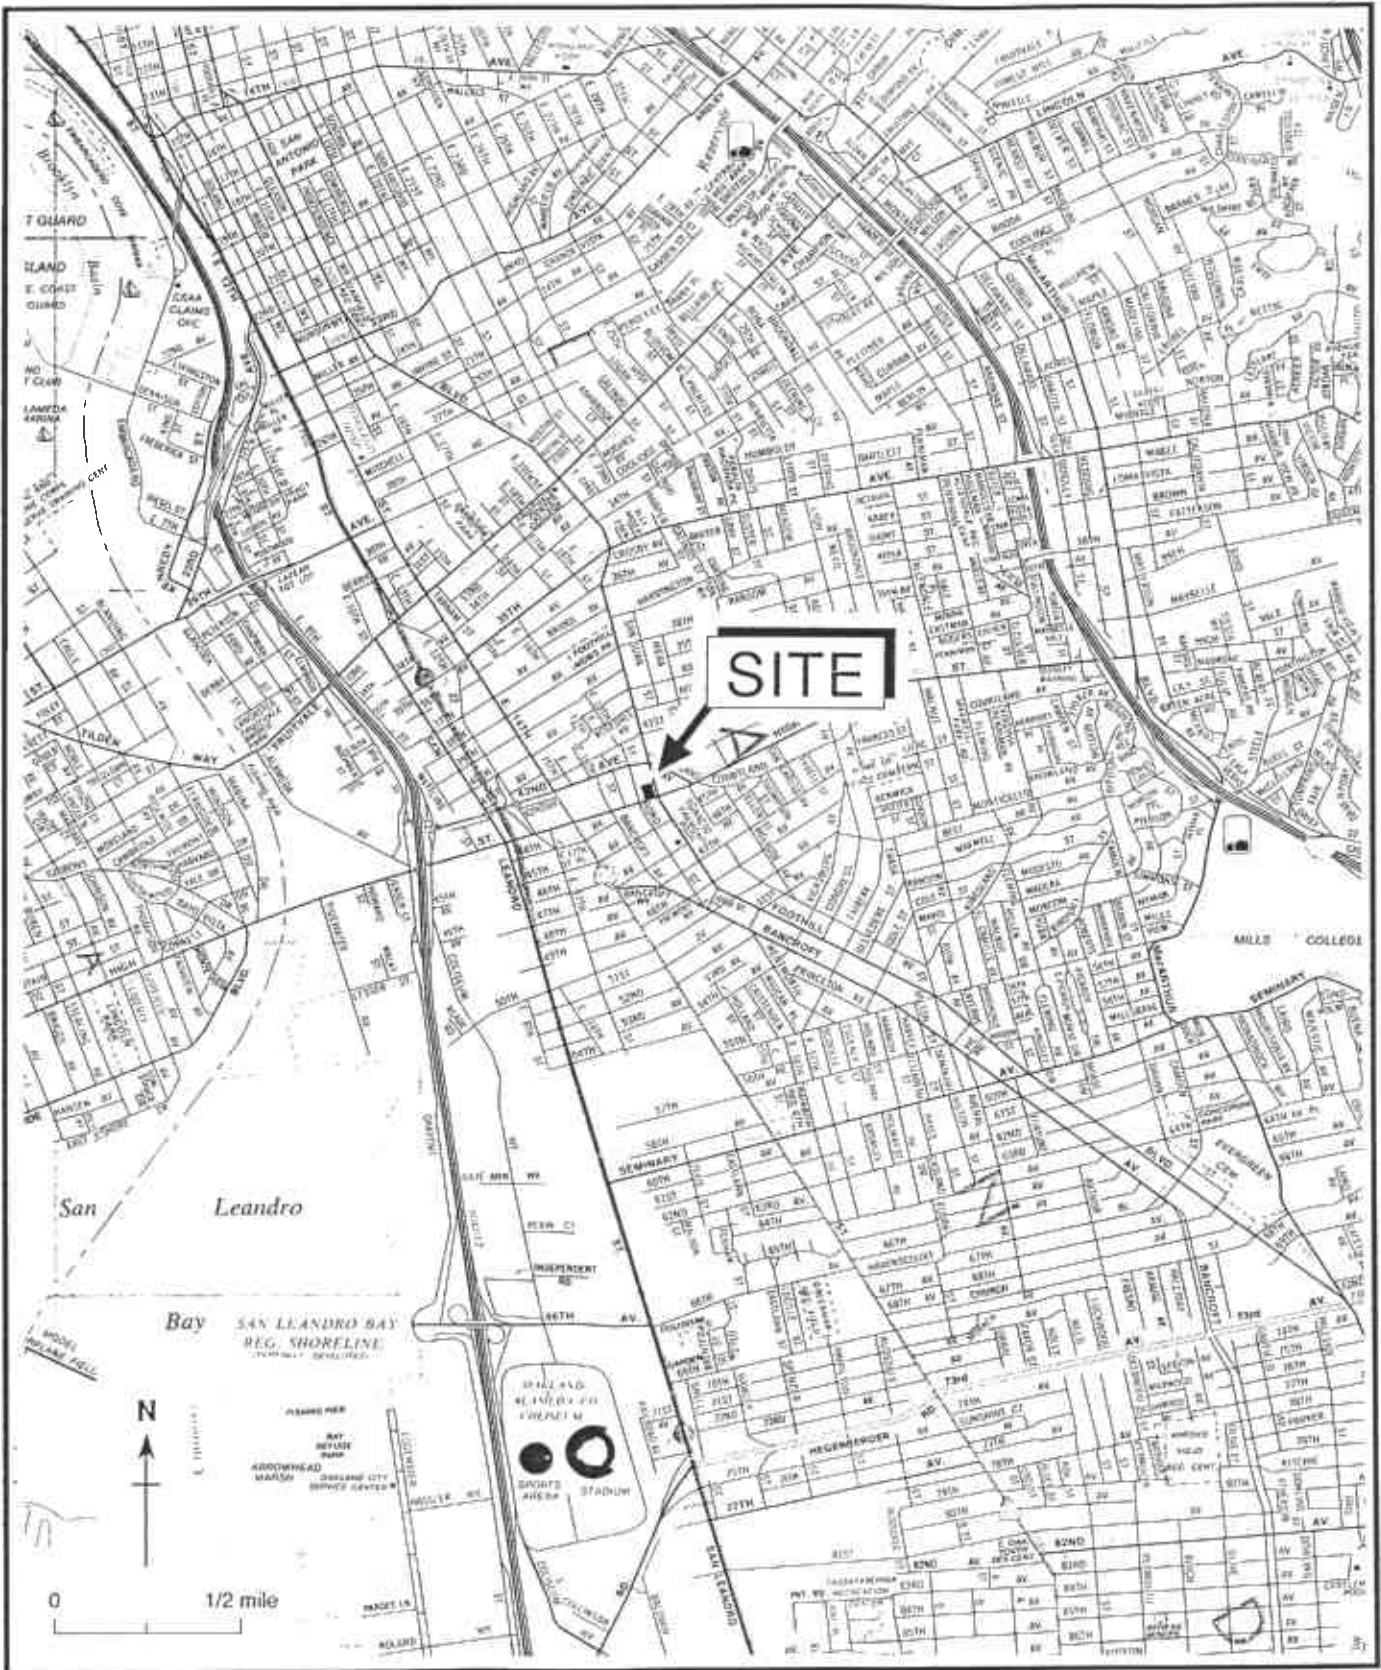
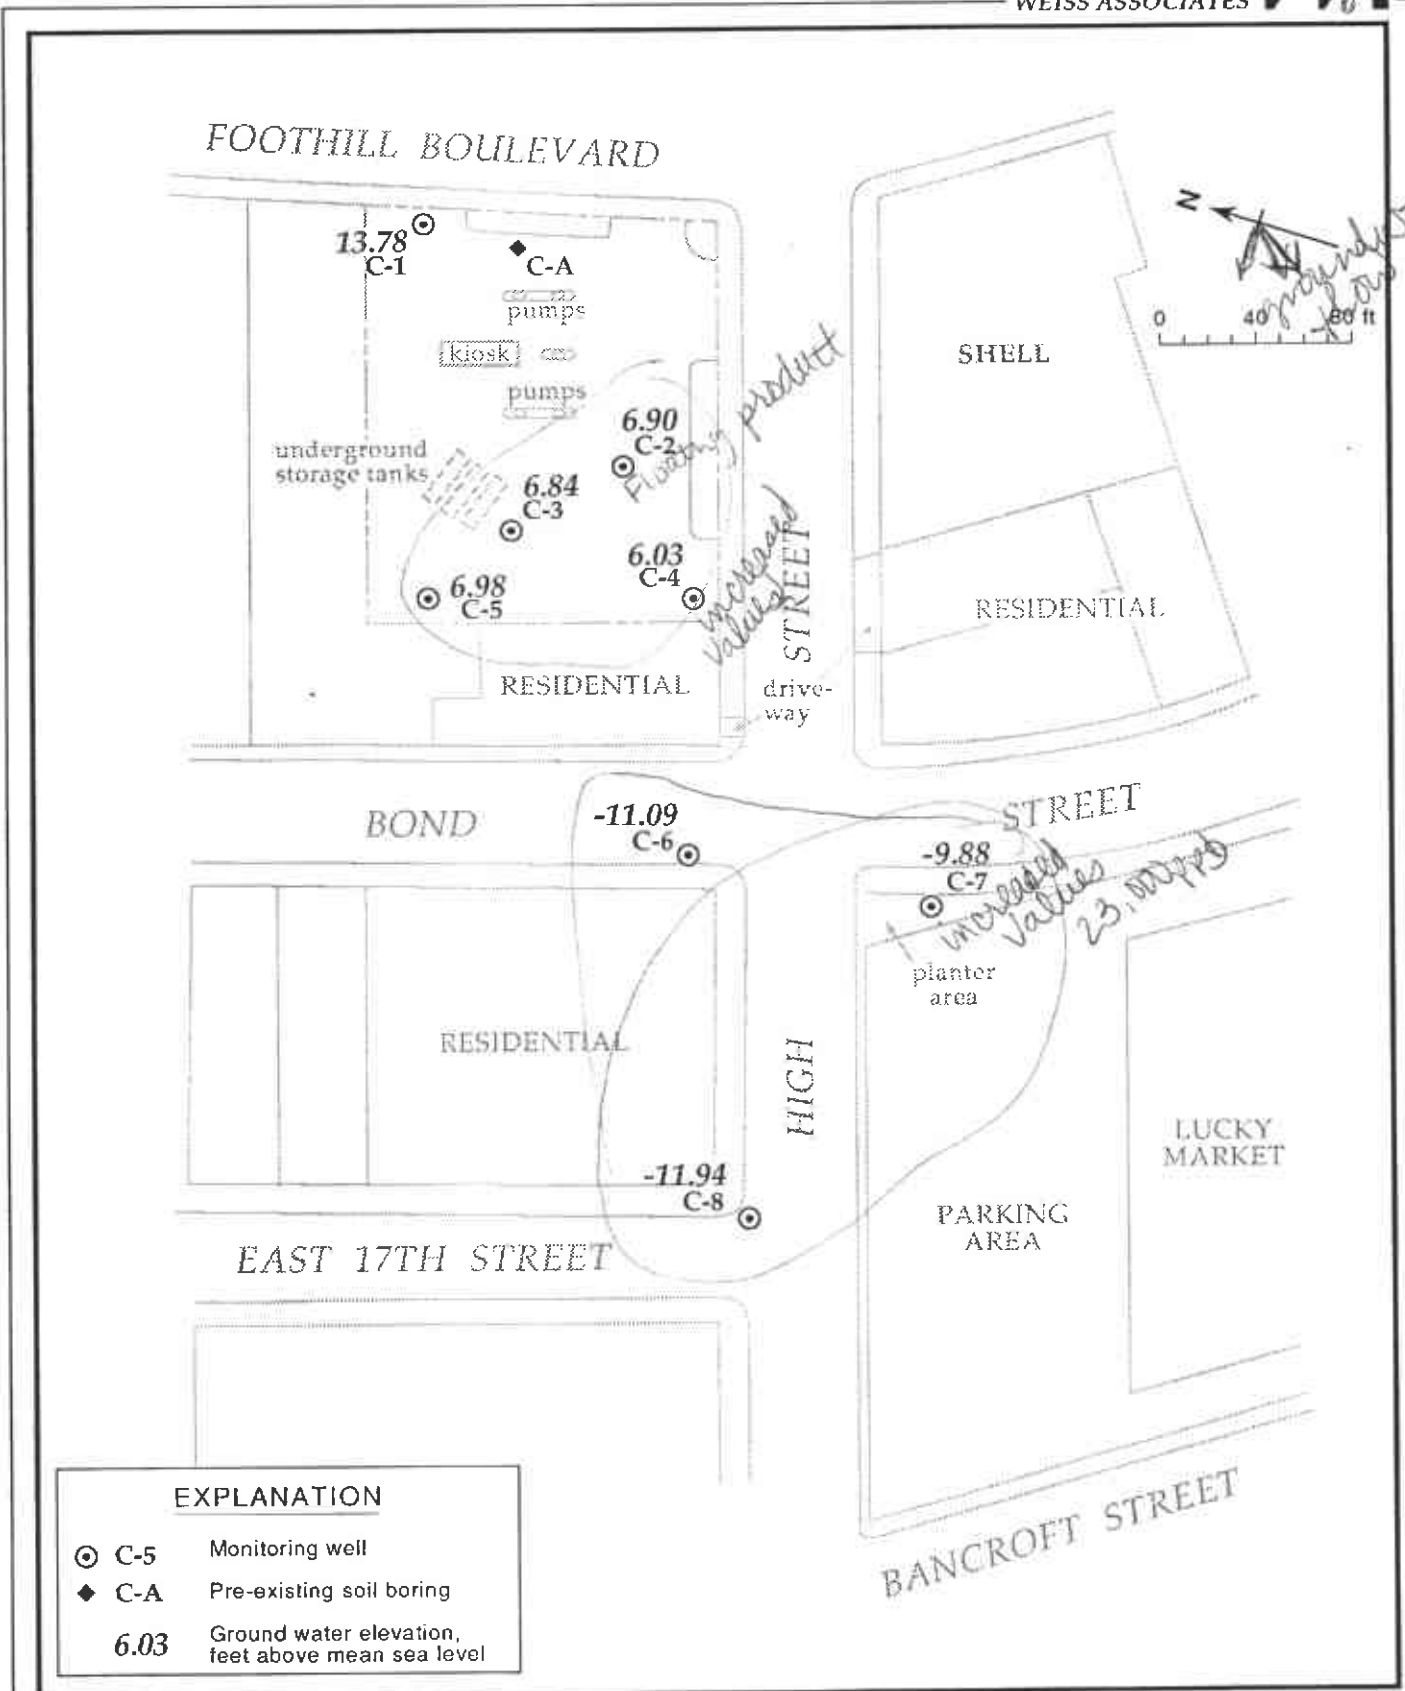

Figure 1. Site Location Map - Chevron Service Station #9-0076, 4265 Foothill Boulevard, Oakland, California
Figure 2. Monitoring Well Locations and Ground Water Elevations - June 18, 1991 - Chevron Service Station #9-0076, 4265 Foothill Boulevard, Oakland, California
As you requested, Weiss Associates (WA) is providing this Ground Water Monitoring Report for the site referenced above (Figure 1). WA sampled the ground water monitoring wells (Figure 2) on June 18, 1991, in accordance with the requirements and procedures of the California Regional Water Quality Control Board - San Francisco Bay Region and local regulatory agencies.